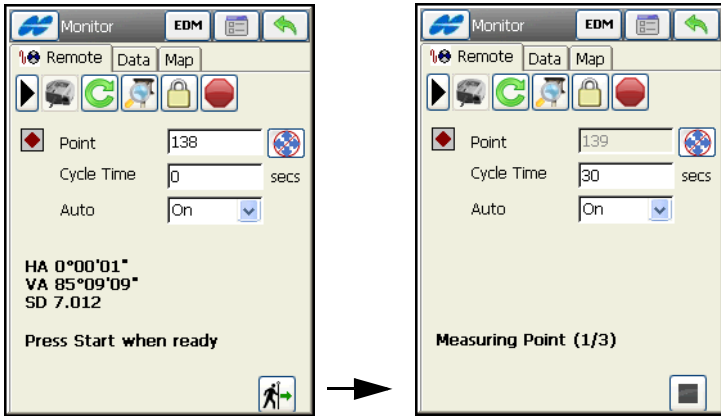

Figure 8-78. Monitor
4. After the point list is selected, tap the **Next** button. Another **Monitor** screen displays (Figure 8-78 on page 8-71).